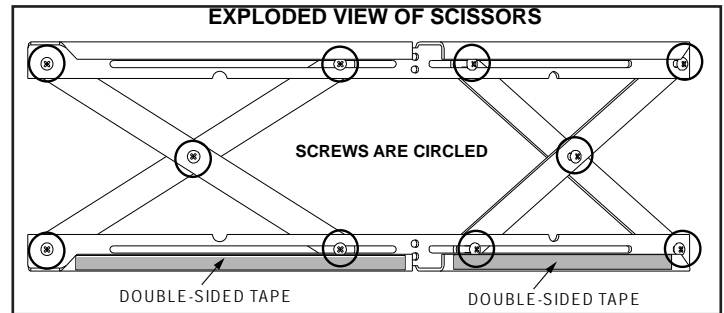

Figure 23.1
1. The 10 screws on each set of scissors will already be loose when shipped. **Figure 23.1.**
3. Open Start-Up Air Control (right control) and Primary Air Control (center control under ashlip) fully. **Figure 23.1 on page 23.**